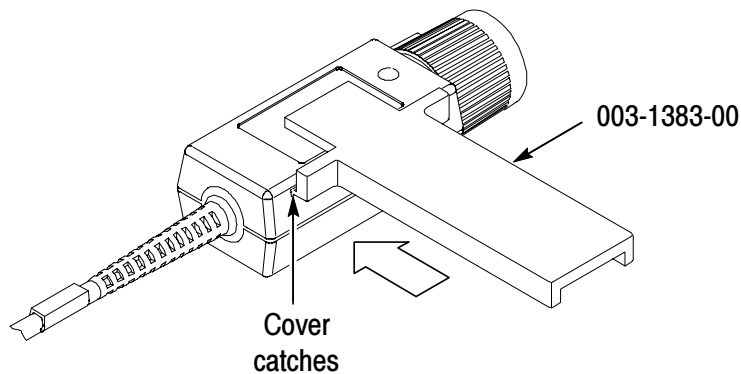

Figure 9: Removing the compensation box covers
2. Gently separate the each side of the compensation box. Refer to Figure 9 below.